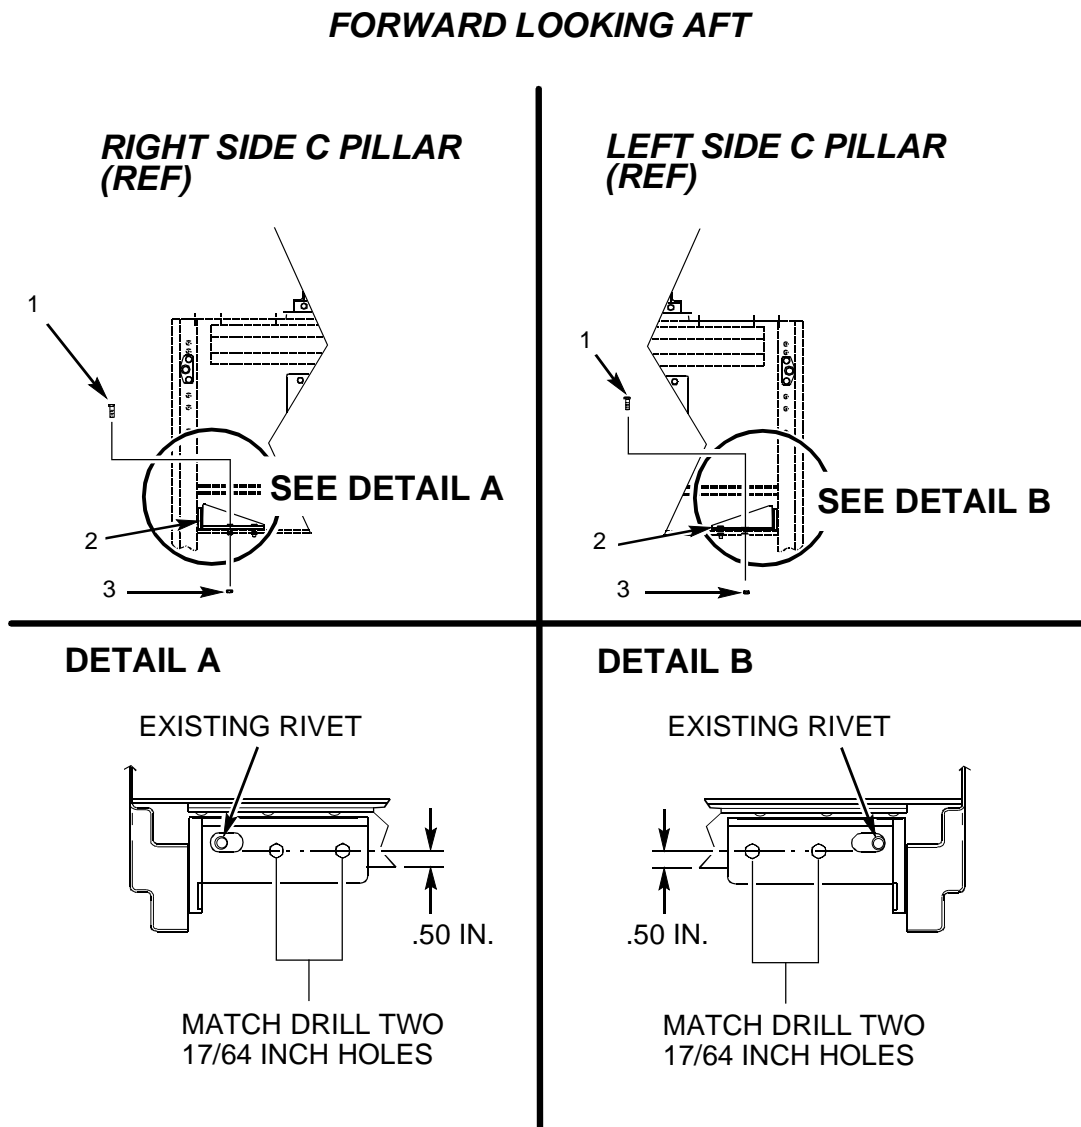

Figure 2-4. Rear Door Removal (4 Door Only)
2. Remove rear door ramp block (see figure 2-4).
- a. Remove two capscrews (1) and locknuts (3) securing rear door ramp block assembly (2).
- b. Remove rear door ramp door assembly (2).